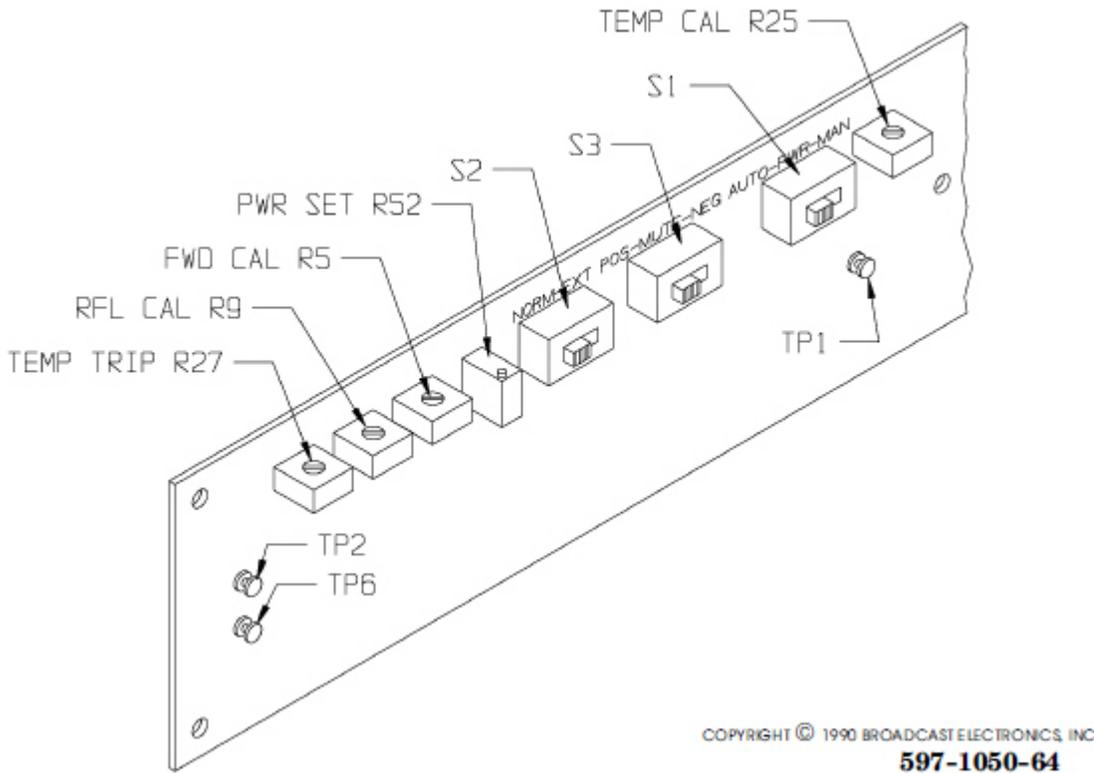

Figure 6-3. POWER SUPPLY/CONTROL CIRCUIT BOARD CONTROLS
- D. Remove the top-cover. Refer to Figure 6-3 and operate AUTO-PWR-MAN switch S1 to the MAN position.
F. Refer to Figure 6-3 and adjust PWR SET control R52 for a 40 watt output power indication on the external meter.
G. Refer to Figure 6-3 and adjust FWD CAL control R5 for 40 watts as indicated on the front-panel FWD meter.
J. Depress the RFL meter function switch. Refer to Figure 6-3 and adjust RFL CAL control R9 until the meter indicates 11% of the value recorded in step I.
M. Refer to Figure 6-3, adjust PWR SET control R52 until the meter indicates the value recorded in step A.
E. Refer to Figure 6-3 and connect a voltmeter between TP1 and TP6 (ground).
G. Refer to Figure 6-3, adjust TEMP CAL control R25 until the voltmeter indicates the value recorded in step D.
B. Remove the top-cover. Refer to Figure 6-3 and connect a voltmeter between TP2 and TP6 (ground).
D. Refer to Figure 6-3 and adjust R27 until the voltmeter indicates +3.65V dc.